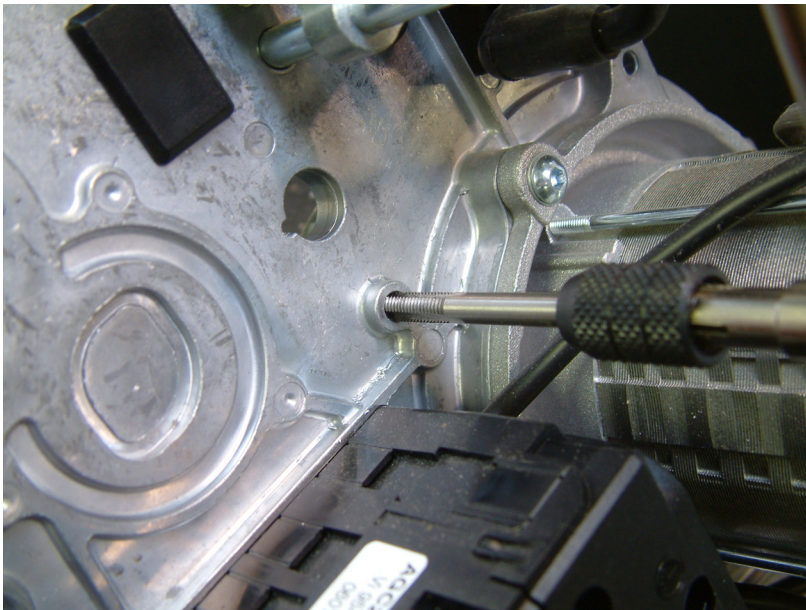

Fig. 10
19. Use M6x1 thread tap, cut the thread in the plate, Fig.10.